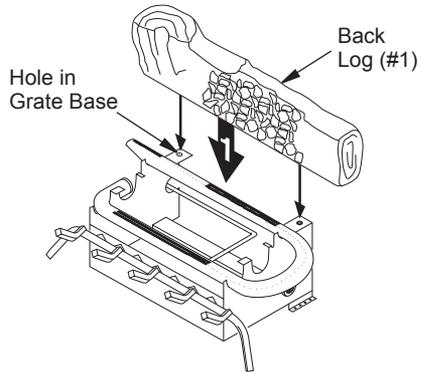

Figure 29 - Installing Back Log (#1)
1. Locate pegs on bottom of back log (#1). Slide these pegs into holes in grate base behind burner (see Figure 29).